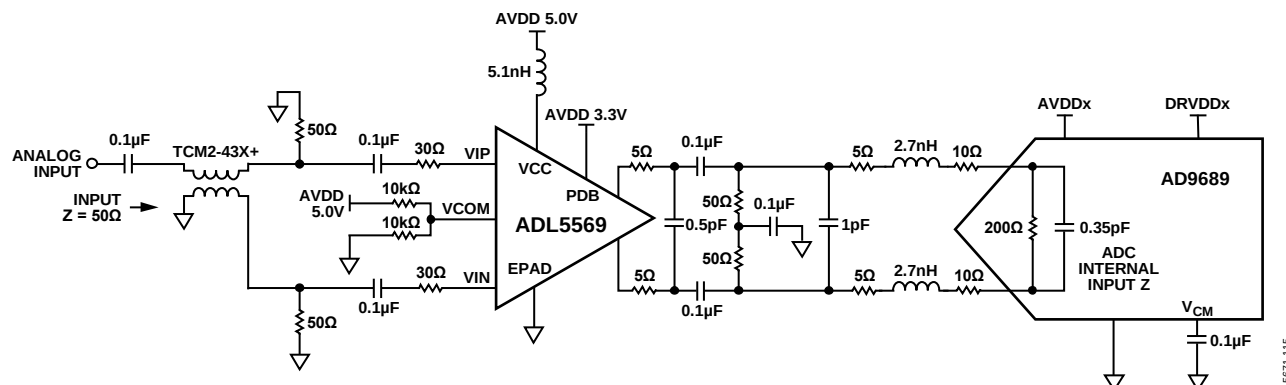

Figure 49. Wideband 3.2 GHz Bandwidth AC-Coupled ADC Interfacing Example: ADL5569 Driving the AD9689
A wideband data acquisition system using the ADL5569 together with the AD9689, a dual 14-bit ADC, was developed and tested as shown in Figure 49 for ac-coupled applications. The amplifier output common-mode voltage is set to  $AV_{DD}/2$  with the voltage divider formed by the two 10 k $\Omega$  resistors on the VCOM pin. However, the VCOM pin can be left open (with a decoupling capacitor as described in Table 4), because there is an internal divider to pull the node to  $V_{CC}/2$  in such cases. The resistor capacitor (RC) filter after the amplifier works with the pole formed by the ADC input capacitance to attenuate the broadband noise and out of band harmonics generated by the amplifier. The RC filter also blocks sharp switching pulses, that is, charge injection from the ADC internal sampling circuitry, from reaching the amplifier outputs and creating nonlinear effects. An additional band-pass filter, specific to the system rejection requirements, is also needed in front of the ADL5569 amplifier to prevent